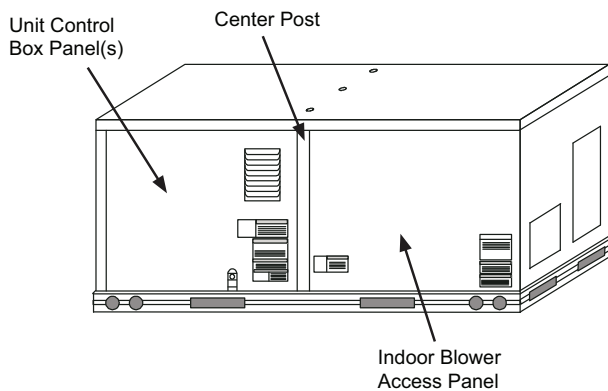

Fig. 9 — Typical Indoor Fan Motor Access Panel Locations
14. Remove the indoor blower access panel and the panel(s) covering the unit control box. (See Fig. 9.) In the hardware kit provided with the EconoMi\$er X is the HH63AW002 controller (Honeywell W7220). Mount the controller assembly on the left side of the unit control box. Screw controller to the control box through pre-punched holes in control box. (See Fig. 10.)
26. Re-install the Indoor blower access panel. (See Fig. 9.)
27. After powering unit controller, program the W7220 controller per the instructions to follow. See Programming the W7220 Controller section on page 12 for summarized controller set-up instructions. After all settings have been made, re-install the unit control box panel. (See Fig. 9.)